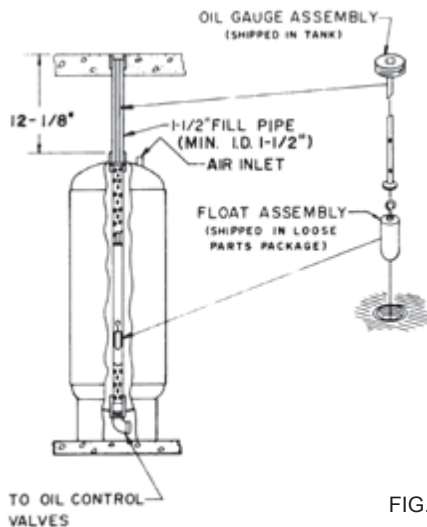

FIG. 5
- F. Remove Float Assembly from the loose parts kit and insert through tank fill opening with the hook end up. Check float to be certain it is free and floating. (Ref. Fig. 5).